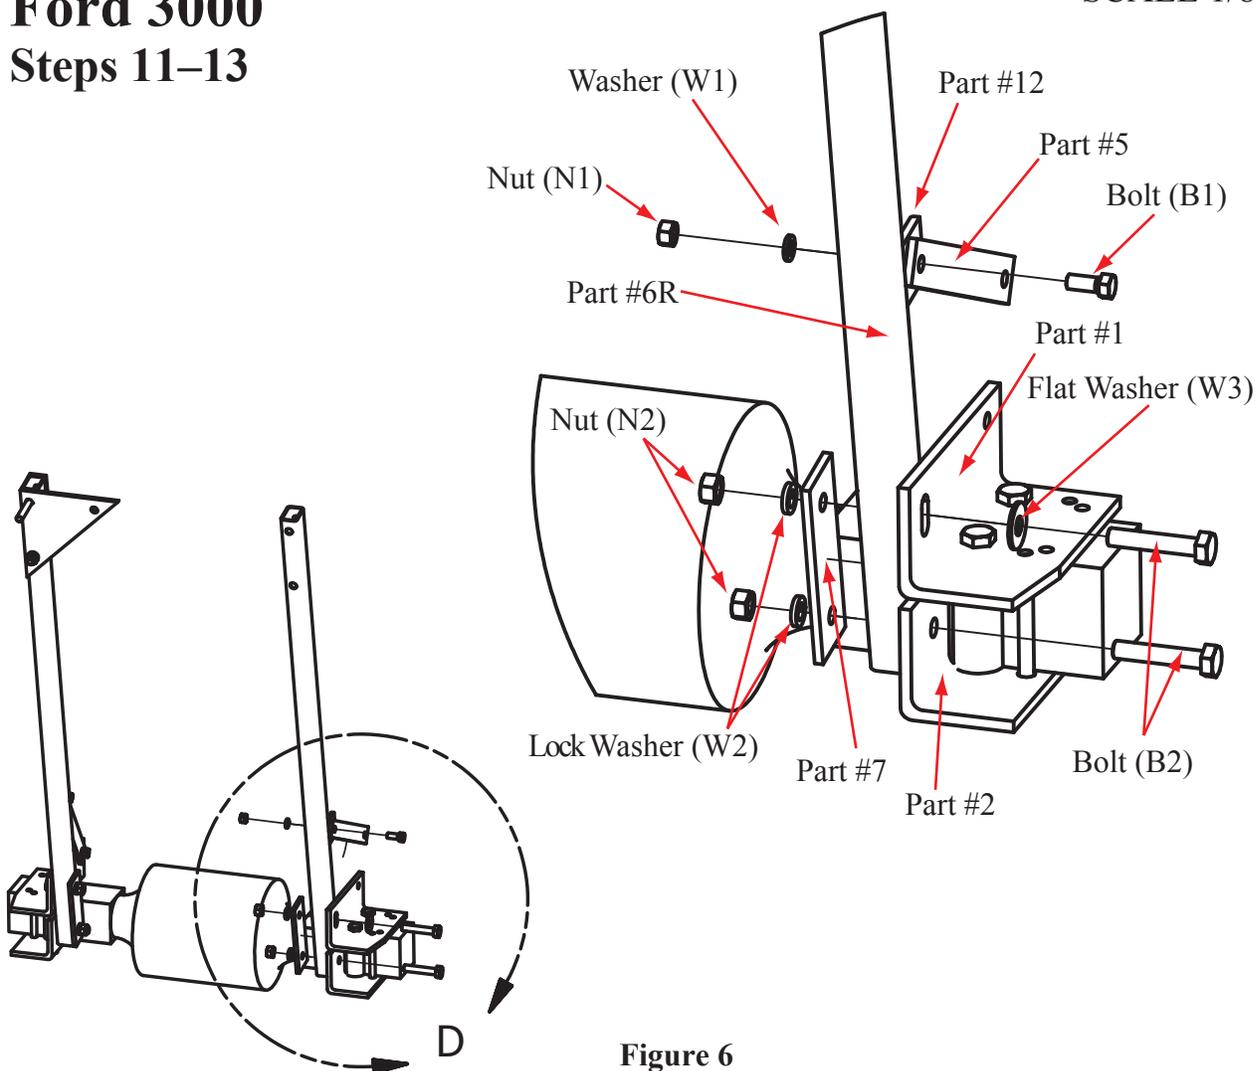

Figure 6
Step 11. Attach a vertical tube bolted brace (#5) to the vertical tube welded brace (#12) of the right vertical tube (#6R) using a bolt (B1), a lock washer (W1), and a nut (N1). Tighten to a snug fit. (Figure 6)
Step 12. Insert bolt (B2) through the bottom right axle bracket (#2). Slide the bottom holes of the right vertical tube (#6R) onto bolt (B2), then place the bottom vertical tube backing plate (#7) onto bolt (B2). Secure with a lock washer (W2) and nut (N2) to create a snug fit. The vertical tube welded brace (#12) (welded to part #6R) should be facing up and toward the axle bracket side as shown in Figure 6.
Step 13. Rotate the vertical tube (#6R) toward the front of the tractor. Insert bolt (B2) through a flat washer (W3), the slotted opening in the top right axle bracket (#1), the corresponding holes in the right vertical tube (#6R), and the backing plate (#7). Secure with a lock washer (W2) and a nut (N2) to create a snug fit. (Figure 6)